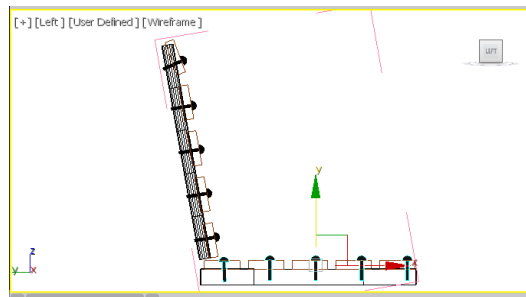

Figure 2-96 Alignment of right side seat rivets in the Left viewport
12. Choose the **Select and Move** tool and align all rivets of *right side seat rivets* group with *horizontal seat support*, as shown in Figure 2-96.